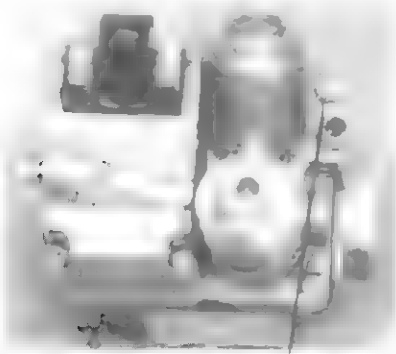

Fig. 5
- 1) Remove the screw from the pilot adjustment hole on the gas valve. See Figure 5.